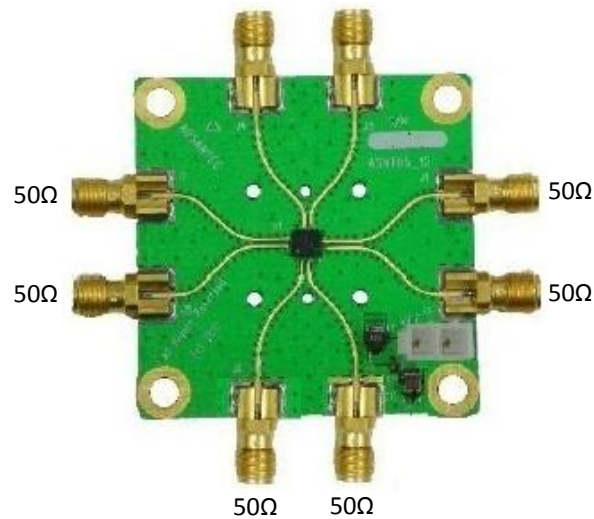

Fig. 5. Impedance of I/O Connectors
- Measure the resistance of all connector pins to VCC, including the power supply, while making sure the board is grounded. All I/O ports should measure 50Ohms while on the power supply connector, VEE should be high impedance and GND should be a short. Fig. 5 shows the resistance values of the described I/O connectors.